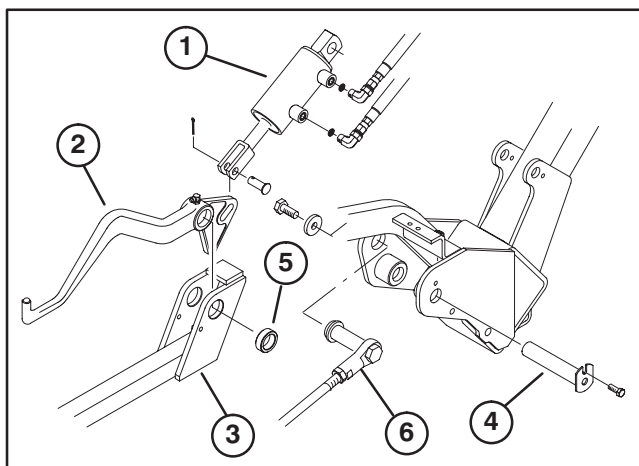

Figure 2
8. Remove cotter pins and clevis pins securing hydraulic lift cylinders to lift arms. Retain cotter pins and clevis pins (Fig. 2).
9. Remove capscrews, pivot pins and spacers securing front lift arms, and carrier frames to traction unit frame (Fig. 2). Discard lift arms but retain carrier frames, capscrews, pivot pins and spacers.
11. Secure each new front lift arm and carrier frame to traction unit frame with a capscrew, pivot pin and spacer previously removed (Fig. 2).